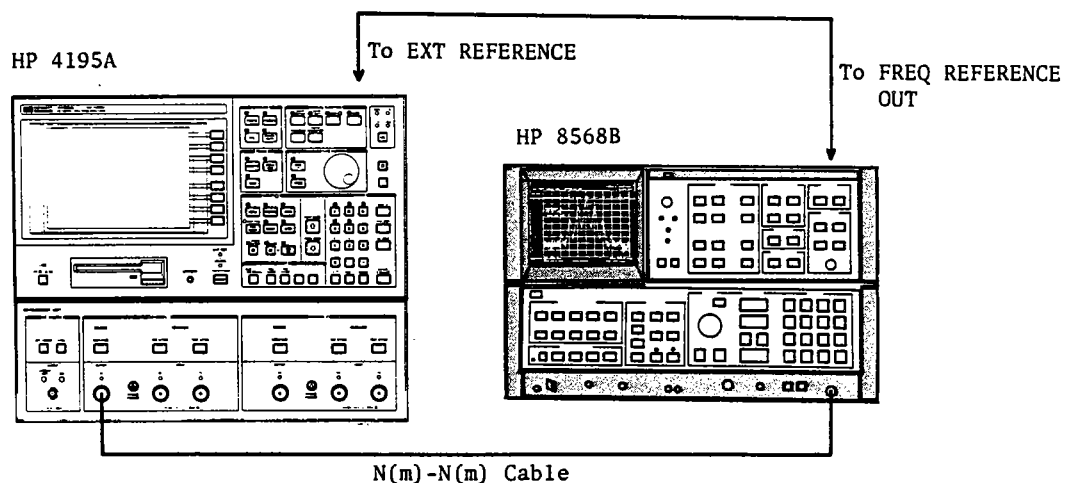

Figure 2-15. Phase Noise Test Setup
2. Connect the N(m)-N(m) Cable between HP 4195A **OUTPUT S1** and the Spectrum Analyzer **SIGNAL INPUT 2**, and connect the BNC(m)-BNC(m) cable between HP 4195A's **EXT REFERENCE** connector and the spectrum analyzer's **FREQUENCY REFERENCE OUTPUT** connector as shown in Figure 2-15.